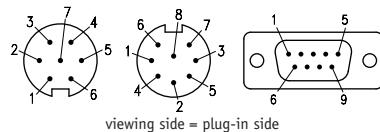

*Fig. 9: Mounting connection type E6*
**E6:** Connection with plug pin and socket contact. Plug mounting according to fig. 9.